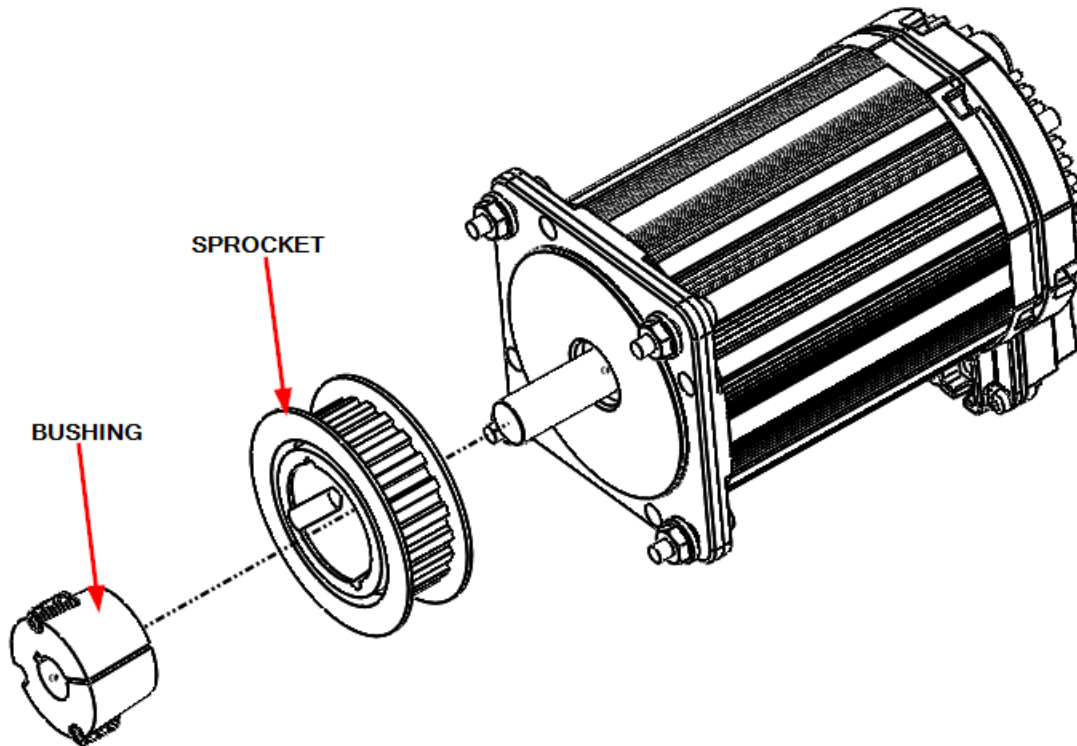

Figure 51: BRBDC Motor Assembly
5. Remove the sprocket from the motor by removing the taper lock bushing as shown in Figure 51.
6. Install replacement sprocket using the taper lock bushing as shown in Figure 51. Torque the taper lock screws to 55in-lbs by following Dodge taper lock bushing installation instructions (Doc Number MN4044, bushing no. 10008).
4. Remove the sprocket from motor shaft by removing taper lock bushing as shown in Figure 51.
5. Install the sprocket on replacement motor using taper lock bushing as shown in Figure 51. Torque taper lock screws to 100in-lbs.